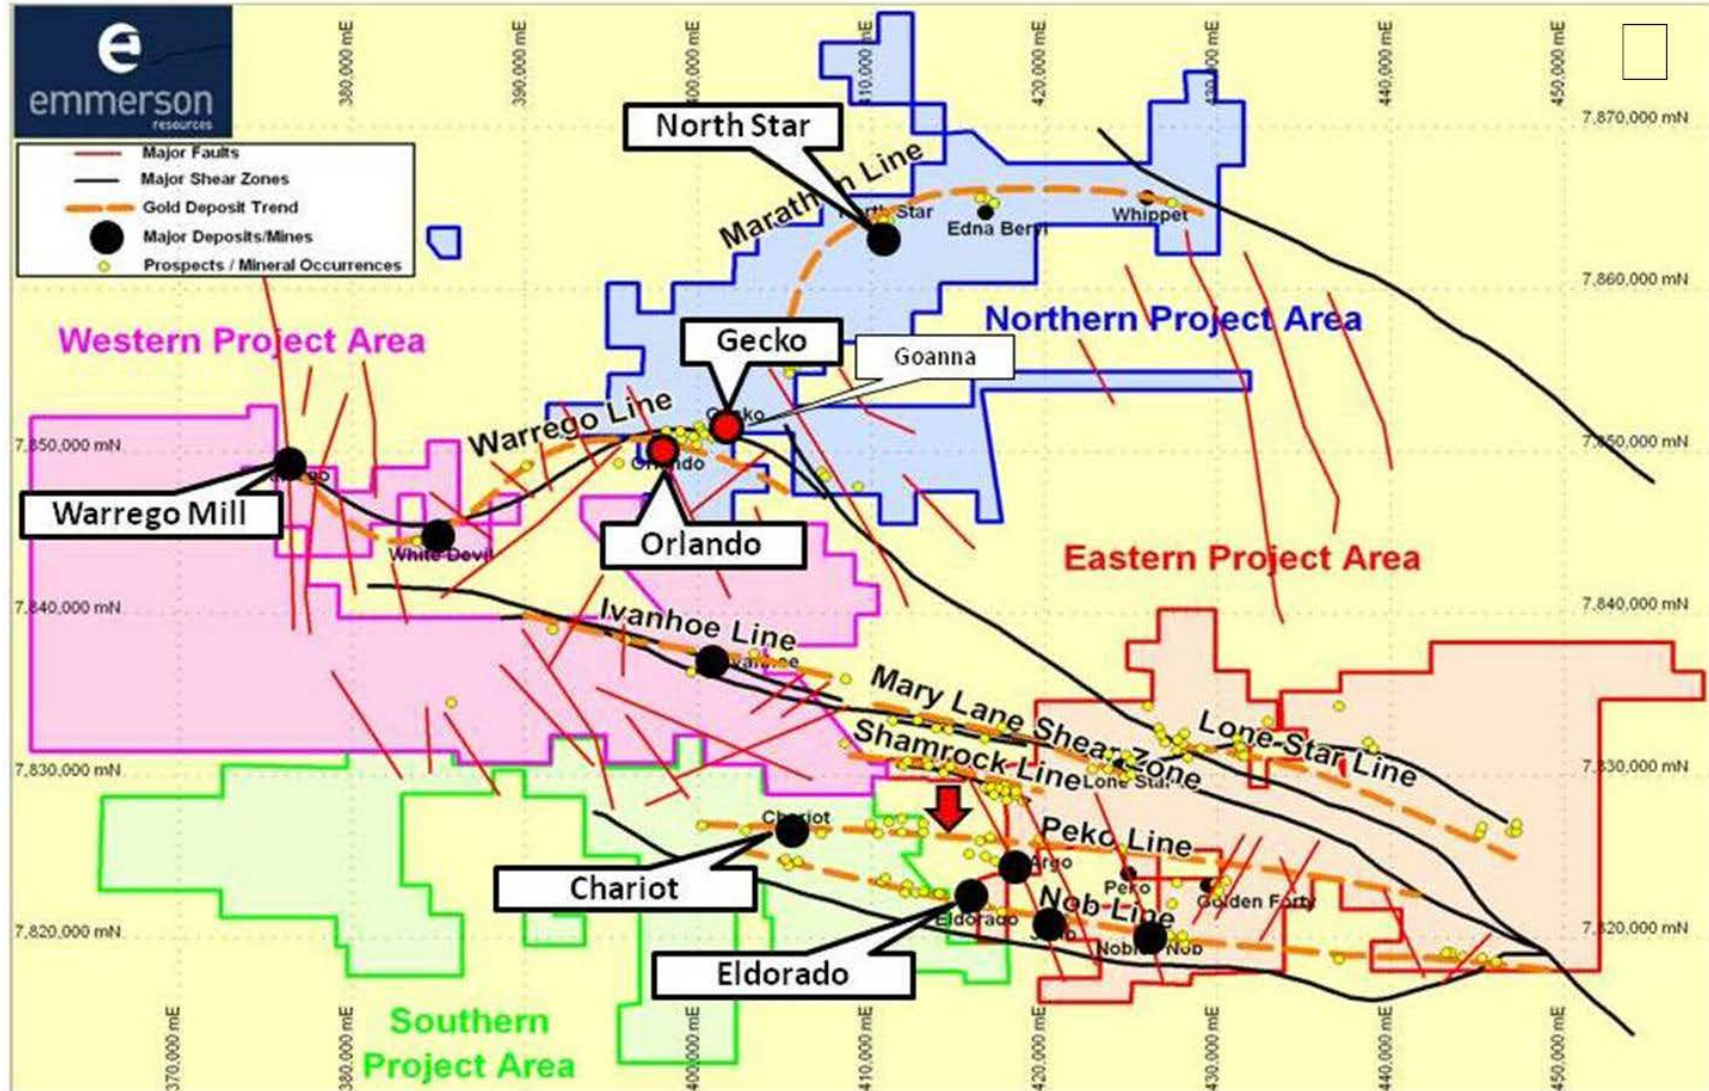

Figure 1: Map showing the Emmerson project areas and the location of Chariot and Eldorado.
Recent drilling at Chariot East, funded by Evolution Mining Limited (ASX: EVN) according to the Tennant Creek Joint Venture agreement, has confirmed the potential of the area and assisted in providing additional geological controls on the plunge of the high grade copper and gold shoots. Apart from reverse circulation drill holes CHRC287 and CHRC288, CHRC286 also intersected 6m at 0.46% copper from 90m, 3m at 2.43g/t gold from 102m and 3m at 1.71g/t gold from 129m. Other drill holes in the program intersected encouragingly thick ironstones, often multiple intersections that were highly anomalous in metals. This has provided some much needed "pierce points" to now plan further drilling and better target the high grade gold that Chariot is well known for (figures 1 & 2).
ELDRC049 and ELDRC050 intersected 3m at 1.78g/t gold and 6m at 0.3g/t gold respectively, again providing additional geological data to better interpret the plunge to the very high grade Eldorado Deeps mineralisation (figures 1 & 3).
*The information in this report which relates to Exploration Results is based on information compiled by Mr Steve Russell BSc, Applied Geology (Hons), MAIG, MSEG. Mr Russell is a Member of the Australian Institute of Geoscientists and has sufficient experience which is relevant to the style of mineralisation and types of deposits under consideration and to the activity which he is undertaking to qualify as a Competent Person as defined in the 2004 edition and the 2012 edition of the Australasian Code for Reporting of Exploration Results, Mineral Resources and Ore Reserves. Mr Russell is a full time employee of the Company and consents to the inclusion in this report of the matters based on his information in the form and context in which it appears (attachments: Figures 1, 2, 3, 4, & 5, Tables 1 & 2). Mr Russell holds an interest in the following securities in the Company: 350,000 Shares and 262,500 Performance Rights.*